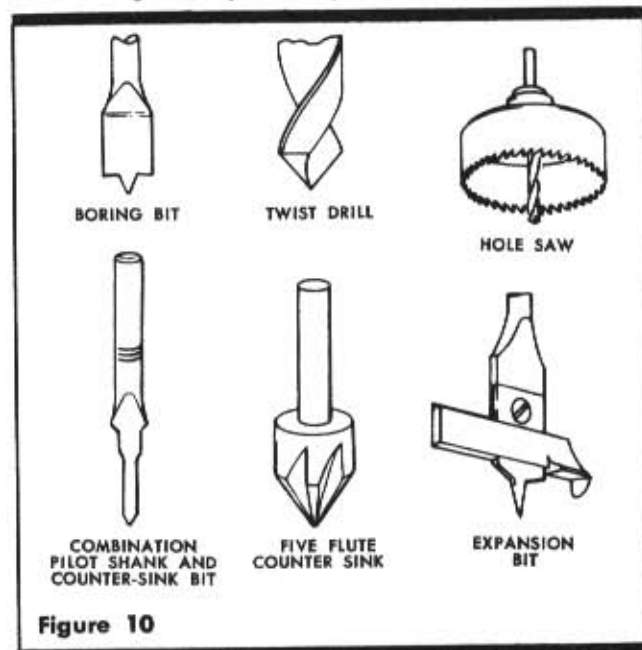

Figure 10
- Types of Drill Bits.** (See figure 10.)